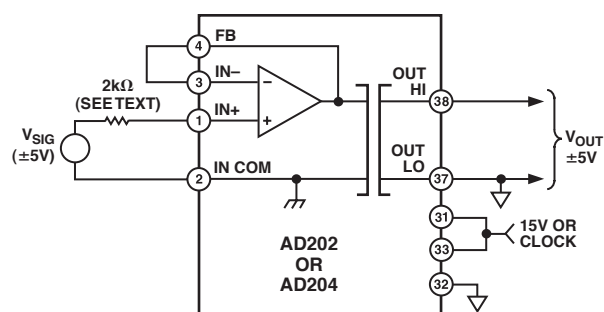

Figure 5. Basic Unity-Gain Application
**Input Configurations.** The AD202 and AD204 have been designed to be very easy to use in a wide range of applications. The basic connection for standard unity gain applications, useful for signals up to  $\pm 5$  V, is shown in Figure 5; some of the possible variations are described below. When smaller signals must be handled, Figure 6 shows how to achieve gain while preserving a very high input resistance. The value of feedback resistor  $R_F$  should be kept above 20 k $\Omega$  for best results. Whenever a gain of more than five is taken, a 100 pF capacitor from FB to IN COM is required. At lower gains this capacitor is unnecessary, but it will not adversely affect performance if used.
The noninverting circuit of Figures 5 and 6 can also be used to your advantage when a signal inversion is needed: just interchange either the input leads or the output leads to get inversion. This approach retains the high input resistance of the noninverting circuit, and at unity gain no gain-setting resistors are needed.